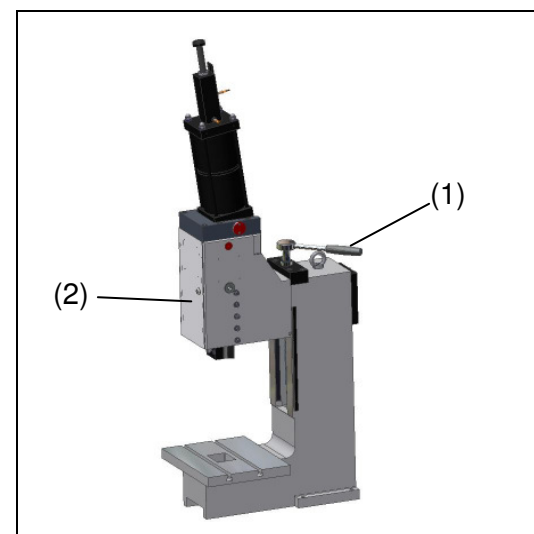

Fig. 9 Adjust height
- ▶ Set the guide unit (**Fig. 9**, Pos. 2) with the crank handle, the hand wheel or the ratchet (**Fig. 9**, Pos. 1) up or down to the required height.